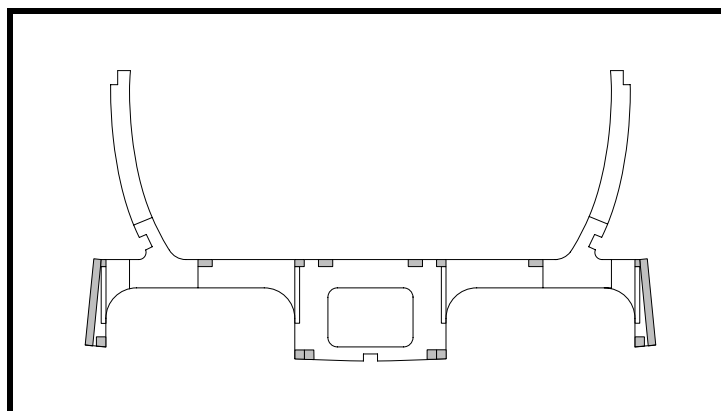

Figure 24
- ❑ For “open air” wheel well installation—install 10x10 spruce gluing strips on the forward and aft face of fuselage frame No. 5 for the wheel well skin. Before they are installed, these strips must be cut the angle of the skin. See Figure 24.